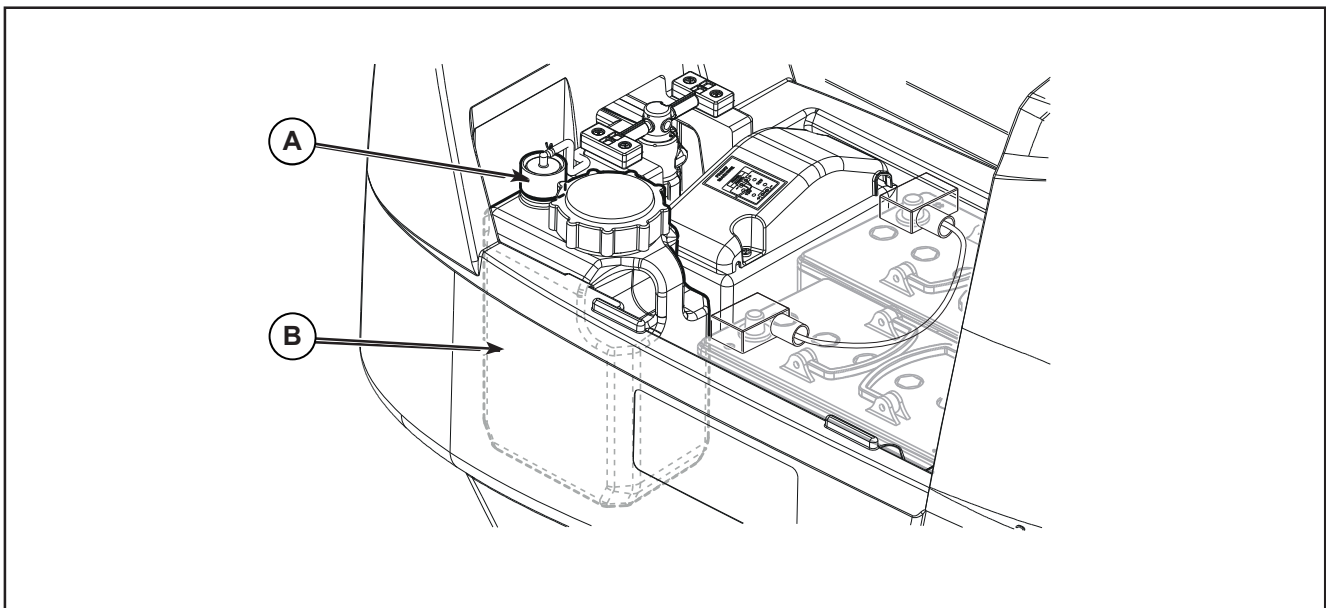

Figure 9:
6. Unscrew the cap (A) (Figure 9) from the detergent tank (B).
9. Replace the detergent tank (B) as shown in the figure, then refit the cap (A).